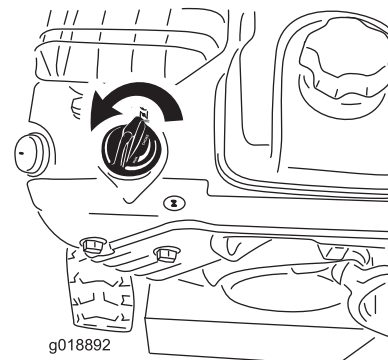

**Figure 23**
3. Insert the ignition key (Figure 23).